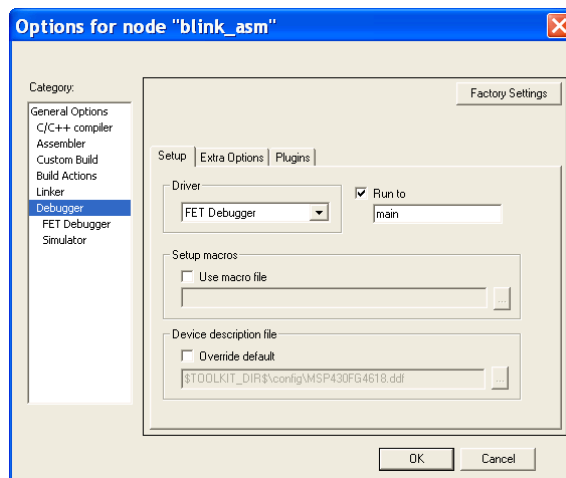

Figure 6. Debugger category.
Step 1: Choose Project>Options, Debugger category. Select FET Debugger (Figure 6) and click OK.